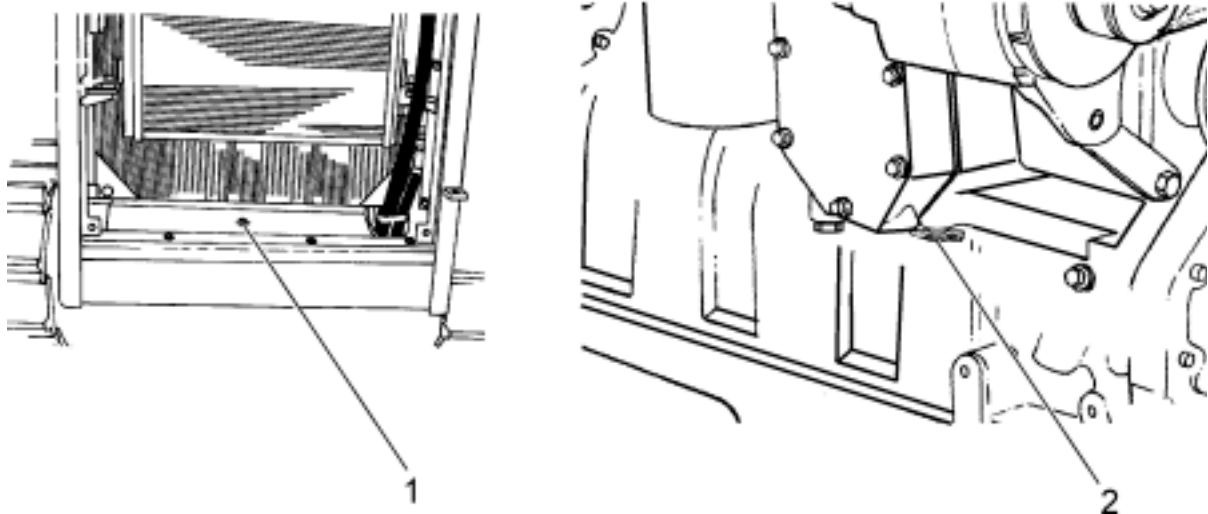

Fig. 5.9 Radiator Drain Valves.
3. Open the radiator drain valve and the main drain valve located on the engine block and drain the system completely (Fig. 5.9).
1. Close the radiator drain valve and the valve on the engine body (Fig.5.9).